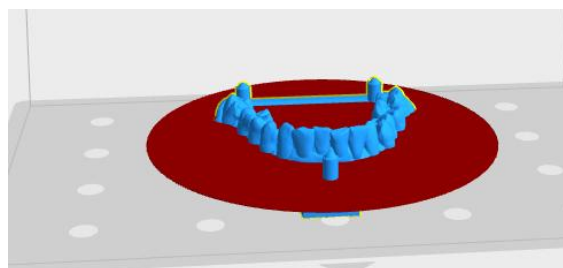

Figure 21 Z plane cutting interface
④ Z Plane: As shown in Figure 21.